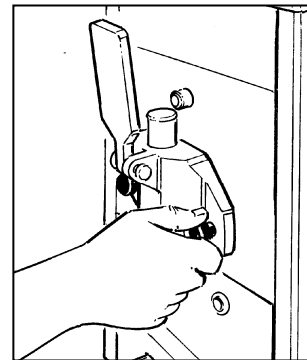

Fig. 32
- Once you have correctly mounted the flange, screw the security knobs right down (fig. 32).